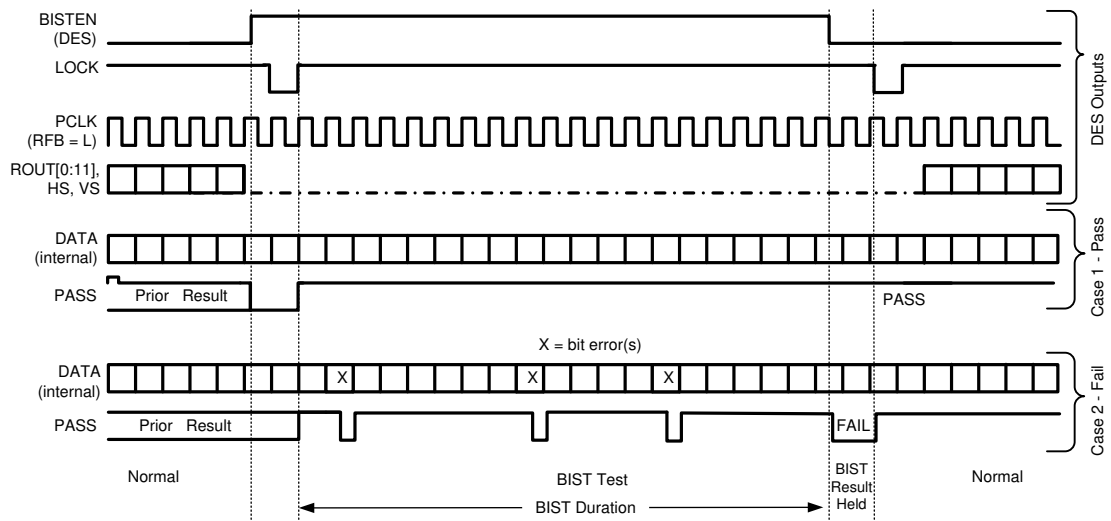

Figure 20. BIST Timing Diagram
Step 4. The link returns to normal operation after the deserializer BISTEN pin is low. Figure 20 shows the waveform diagram of a typical BIST test for two cases. Case 1 is error free, and Case 2 shows one with multiple errors. In most cases, it is difficult to generate errors due to the robustness of the link (differential data transmission etc.), thus they may be introduced by greatly extending the cable length, faulting the interconnect, or by reducing signal condition enhancements (Rx equalization).